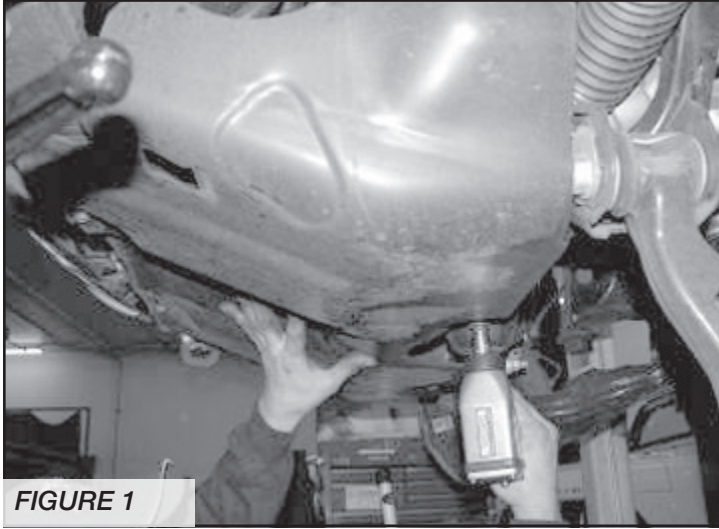

FIGURE 1
2. Working from both sides of the truck, locate and remove the factory skid plate and brackets. Discard skid plate and hardware, these will not be reinstalled on the truck. **SEE FIGURE 1**